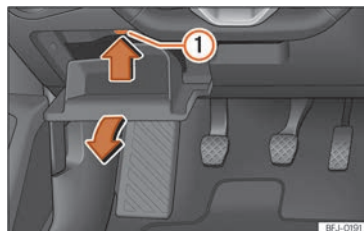

Fig. 49 On the dashboard on the driver's side (left-hand drive): fuse box cover.
- Open the storage compartment on the driver side »» Fig. 49.
- Press the locking lid »» Fig. 49 ① upwards, in the direction of the arrow, and at the same time open the storage compartment even more and remove it until the fuse box is accessible.